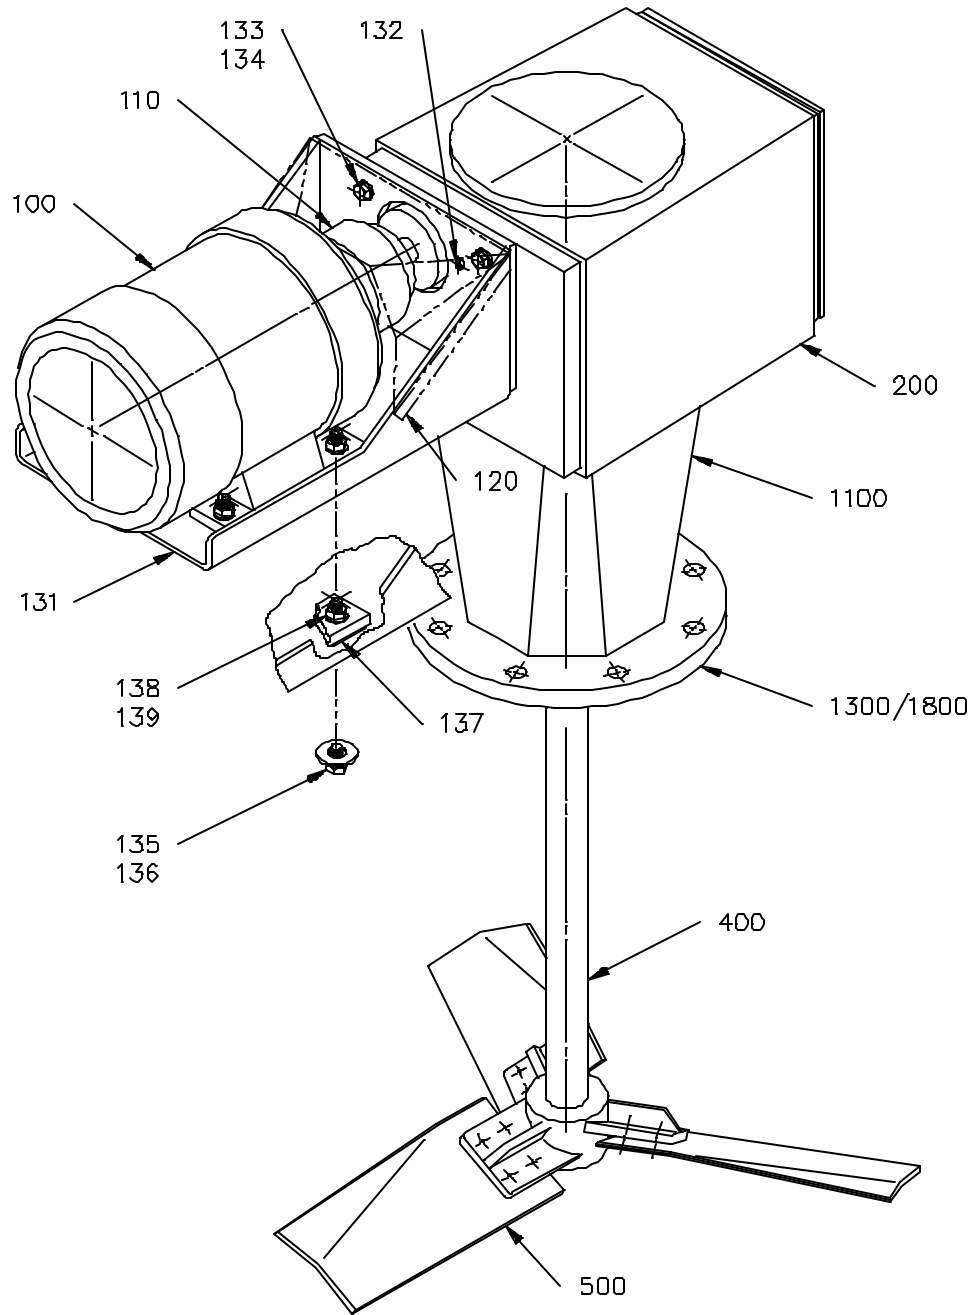

Figure 3: Model HTA, HTAL, HTL Agitator Assembly
1. The HT agitator is shipped in two or more crates: one for extension shaft **[400]** and impeller **[500]** and one for the agitator drive (*Figure 3, page 13*). Optional accessories, multiple impellers and large motors may be crated separately.